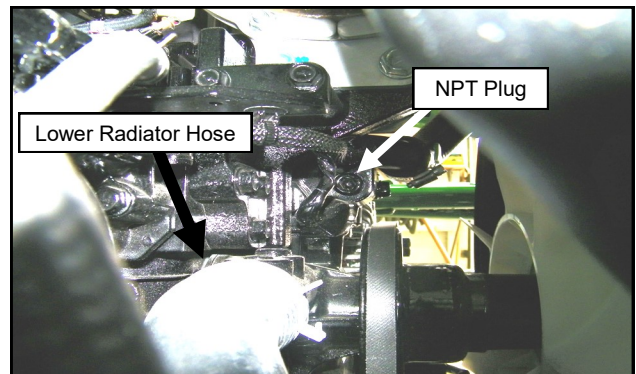

Fig. 2.4a (Remove NPT Plug from Engine)
- 2.4 Remove the NPT plug from the front of the engine and install the block adapter with Teflon tape. See Figures 2.4a and 2.4b.